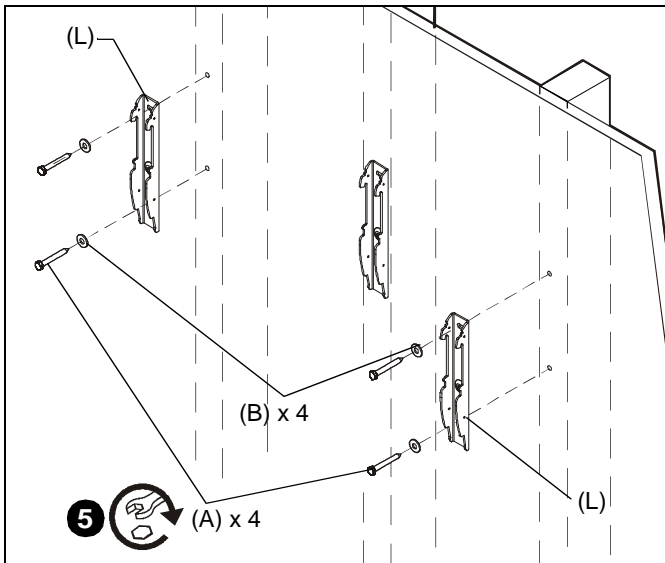

Figure 4
5. Install four 5/16 x 2-1/2" hex head lag screws (A) through four 5/16" washers (B), holes of wall bracket (L) and into drilled holes. (See Figure 4)